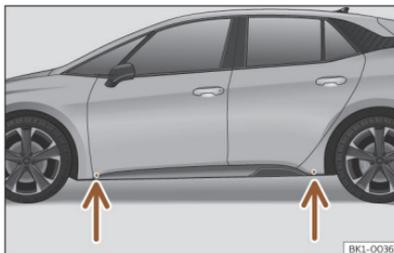

Fig. 201 Jack position points.
- Look on the strut for the mark of the jack support point (sunken area) closest to the wheel to be changed >>> **Fig. 201**.